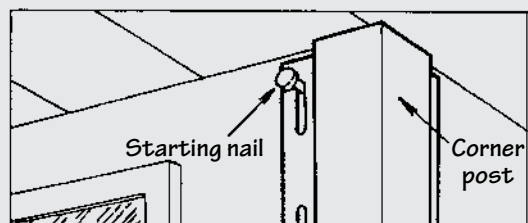

Figure 19.
- Space the fasteners a maximum of 16" (406mm) apart for horizontal siding panels, every 12" (305mm) for vertical siding panels, and every 8" to 12" (203mm to 305mm) for accessories. These distances may be increased if the manufacturer permits greater spacing based on wind load testing. Start fastening vertical siding and corner posts in the top of the uppermost slots to hold them in position (Fig. 19). Place all other fasteners in the center of the slots.